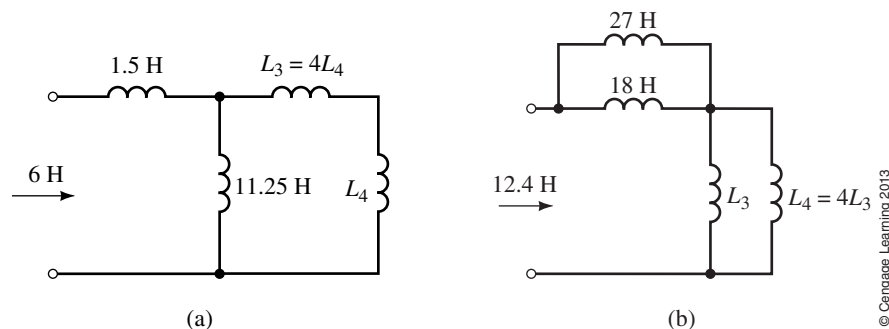

FIGURE 13-40
25. For the circuits of Figure 13-40, determine L_3 and L_4 .